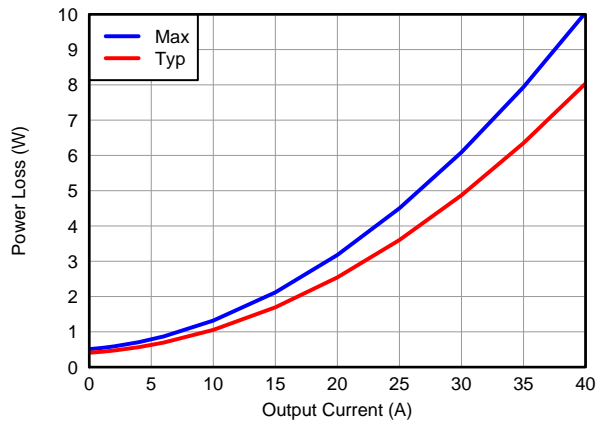

Figure 7. Power Loss vs Output Current
MOSFET centric parameters such as  $R_{DS(ON)}$  and  $Q_{gd}$  are primarily needed by engineers to estimate the loss generated by the devices. In an effort to simplify the design process for engineers, Texas Instruments has provided measured power loss performance curves. Figure 7 plots the power loss of the CSD97370AQ5M as a function of load current. This curve is measured by configuring and running the CSD97370AQ5M as it would be in the final application (see Figure 18). The measured power loss is the CSD97370AQ5M device power loss which consists of both input conversion loss and gate drive loss. Equation 1 is used to generate the power loss curve.
The power loss curve in Figure 7 is measured at the maximum recommended junction temperature of  $T_j = 125^\circ\text{C}$  under isothermal test conditions.
- Typical Power Loss at 25A = 3.5W (Figure 7)